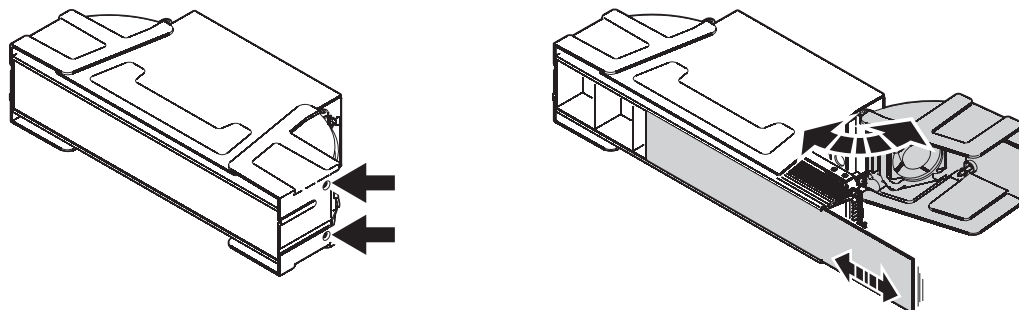

Figure 4: Access to front cover, reflector and lens arrays
2. See Figure 4. Loosen the two captive screws (arrowed) on the end cap and swing the end cap open.